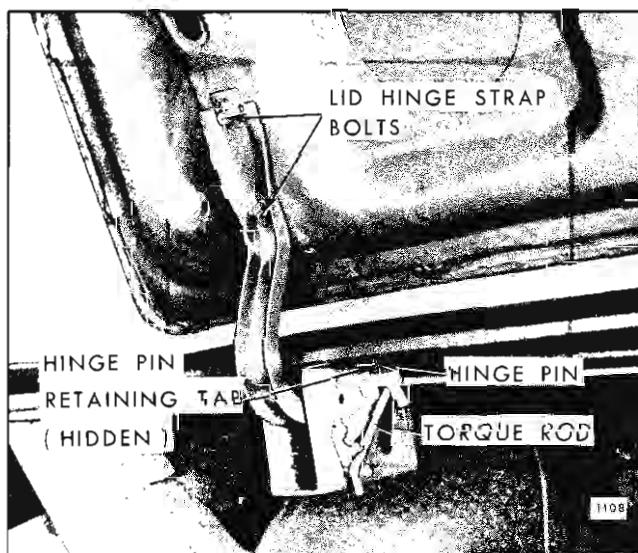

Fig. 1F7—Rear Compartment Lid Attachment
6. Bend up hinge pin retaining tab and drive out pin. Remove hinge strap from body (see Fig. 1F7).